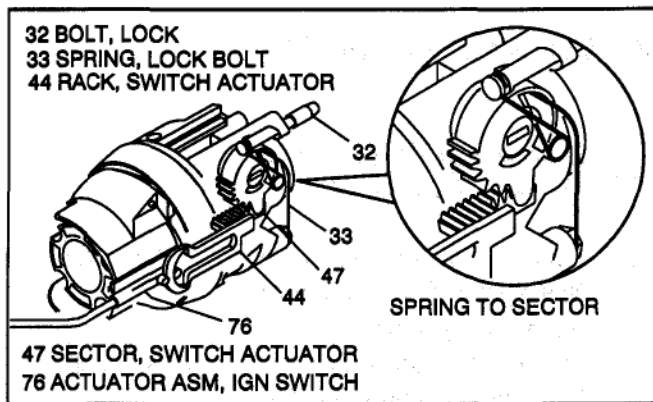

Figure 30 - Actuator Assembly to Actuator Rack Installed
- C. Dowel pin (38) using J 22635.
- D. Release lever spring (41).
- E. Shoe release lever (43).
- F. Release lever pin (42) using J 22635.
- G. Switch actuator sector (47).
- H. Drive shaft (37).
- I. Rack preload spring (45).
- J. Switch actuator rack (44) to actuator sector (47).
- K. Bearing assembly (31) lubricated with lithium grease to column housing (46) using J 38639 and J 8092.
- L. Lock bolt (32).
- M. Lock bolt spring (33). (See Figure 30)
- N. Hex head screw (48).